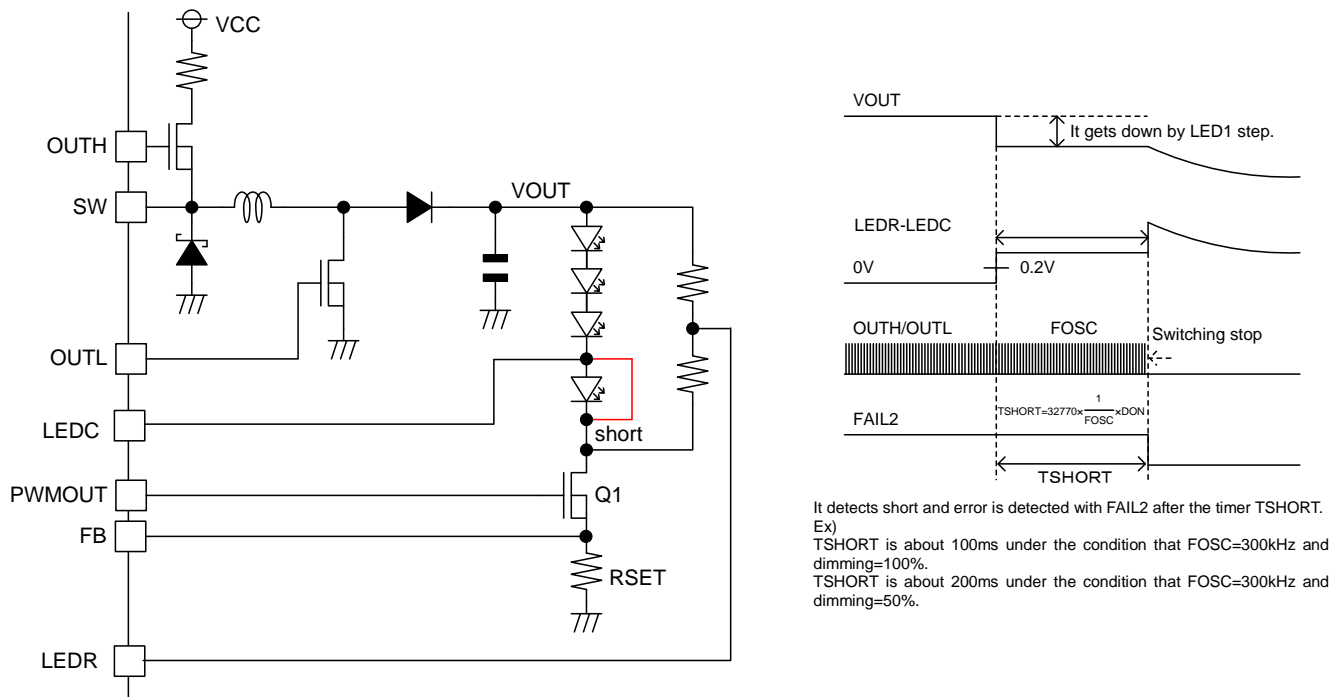

Figure 35
(9) LED Short Detection(Following Figure 35 in P.20)